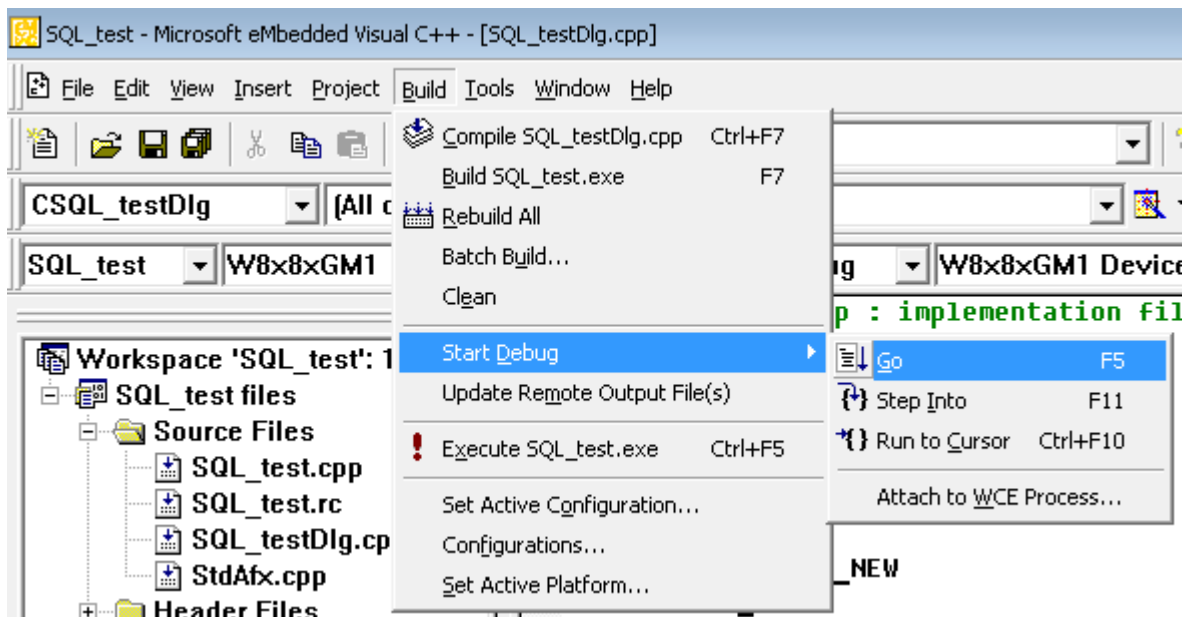

Fig. 5-1-15
4. Double-click on the Push Button object so that you can edit the button’s event code. Then type “OnBtnDO” into the “**Member function name:**” field (see figure 5-1-15), and click the OK button to display the Editor window.